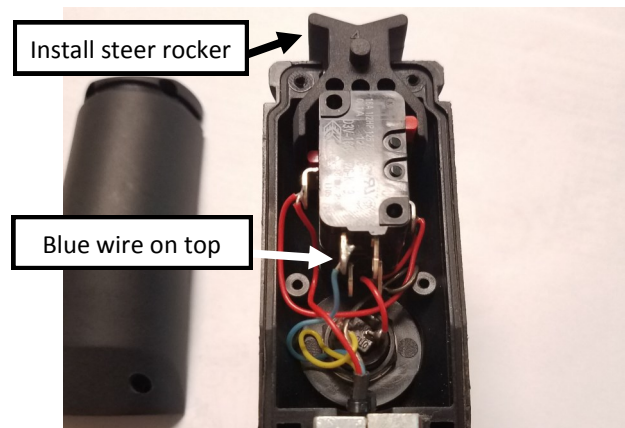

Figure 10
11. Position the micro-switch into the joystick so that the blue wire is facing up (see figure 10).
12. Install the steer rocker (see figure 10).